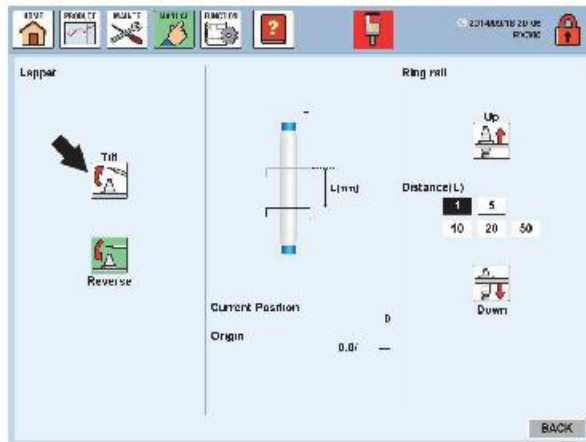

Fig. 2 Manual ring rail-lappet screen (1)
- (1) On the manual operation menu screen displayed by touching the [MANUAL] icon on the top menu, touch the [Lappet -Ring Rail] icon to display the manual lappet - ring rail screen (Fig. 2).